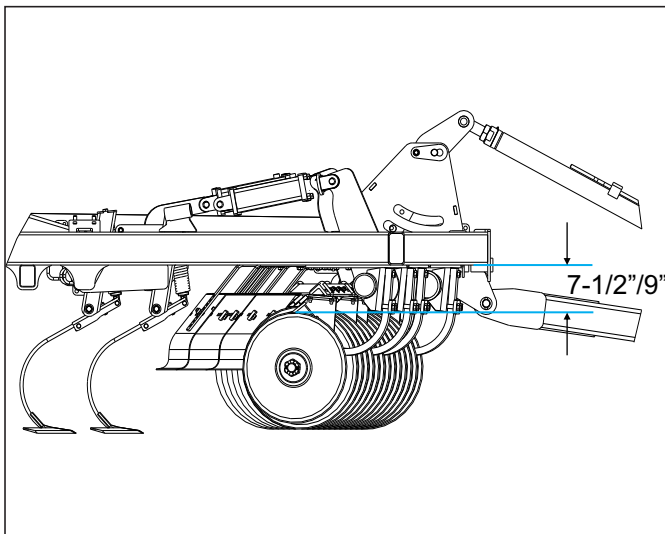

Figure 4-11: Disc Gang Operation
2. **MANUAL** – To set the disc gang depth with the manual ratchet jack adjustment, adjust the ratchet jack(s) on each section. Measure the distance between the top of the disc gang and the bottom of the Finisholl frame. Setting this dimension to 7-1/2" will set the 22" diameter blades 1" above the sweeps See Figure 4-11.